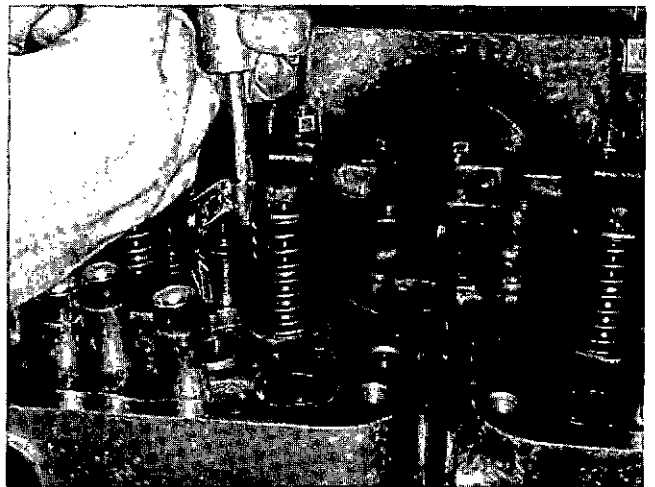

Fig. 0-32, V40080. Removing injector with ST-1147
2. Lift off hold down plate and remove injector link. Remove injector with ST-1147 Injector Puller. Fig. 0-32.